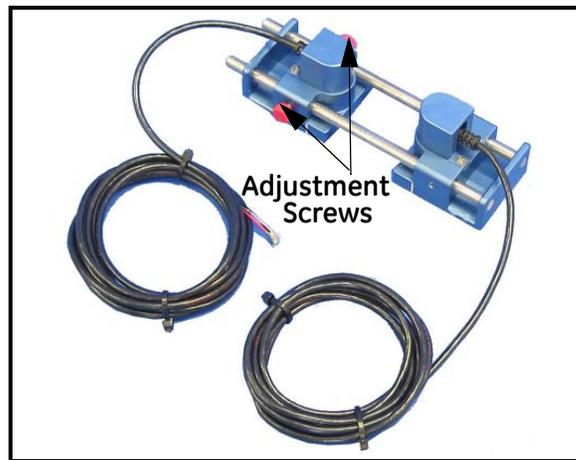

Figure 4: UTX878 Transducer/Cable Assembly
The pre-attached cables come in lengths from 6 to 100 ft. Figure 4 below shows a typical UTX878 transducer, while the outline and installation drawing for the clamping fixture appears in Figure 26 on page 22.
1. Loosen the red screws on the adjustable transducer (shown in Figure 4 above).